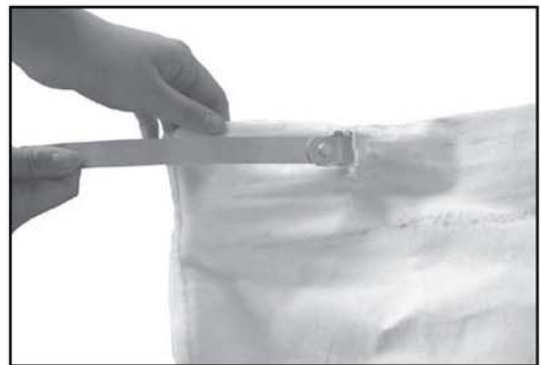

Fig. 09
- 3.) Start the slotted catch end of the band strap through the right slit (Fig. 09).